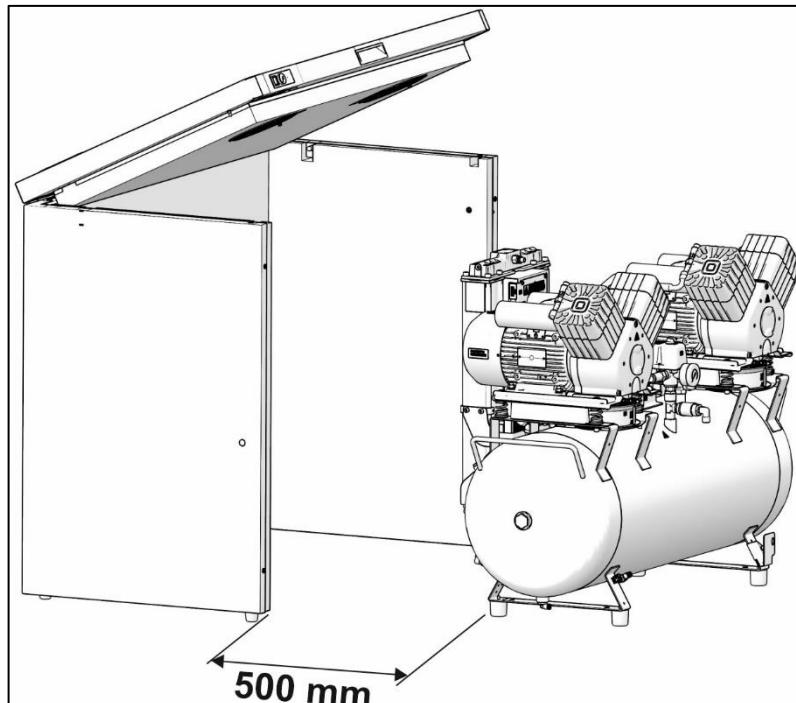

Fig. 19: Positioning of the compressor for connections
- Position the compressor within a distance of at least 500 mm from the cabinet to facilitate the movement of the hoses and the power cord within the cabinet (Fig. 19).